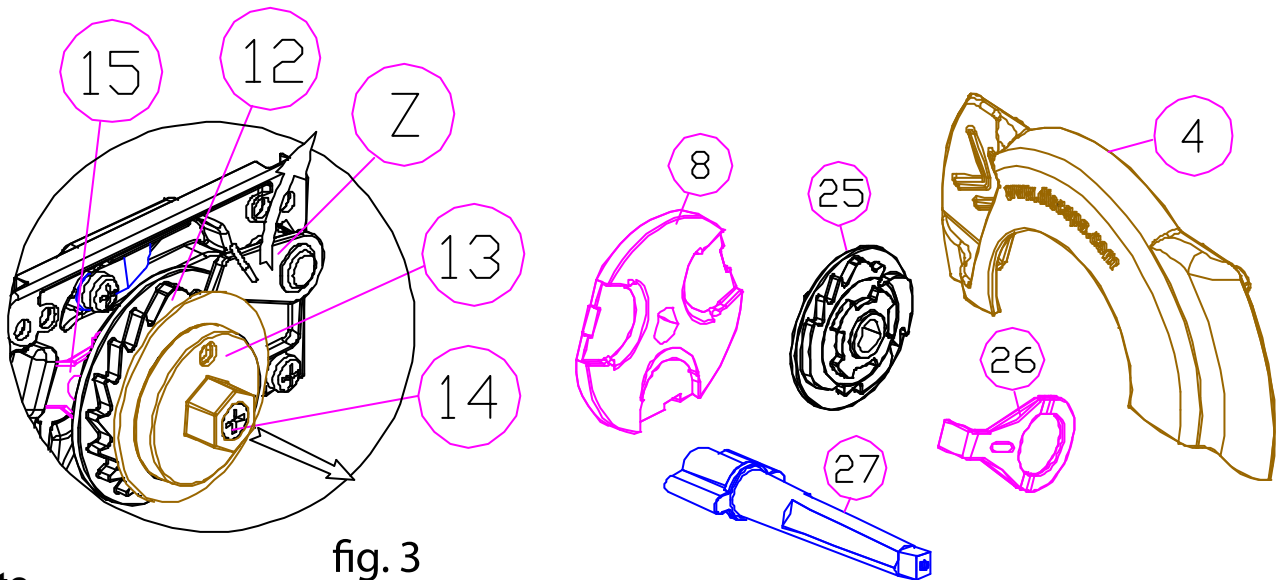

fig. 3
1. Unscrew the extension screw (14), the extension (13), the two screws (3) of the lower parts of the rear chassis (9) and the two screws (11) that hold the selector.
2. Next detach the rear chassis (9) from the front chassis (7) and make sure not to lose the balance lever spring (16). Then activate the cogged cam (Z), pulling it clockwise upwards as shown in fig.3. until it protrudes from the exterior diameter of the cogged cam (12). Now the following parts can be extracted and replace: the cogged cam (12) with the 3 coins cogged cam (25), the balance lever (15) with the 3 coins balance lever (26) and the coin shaft for 1 and 2 coins (1) with the coin shaft for 3 coins (27) which must be fixed on the handle of the mechanism. Finally replace the 1 or 2 coin carrier (8) or token (21-23) with the 3 coin carrier (8) and check that it is well fixed into the front chassis.